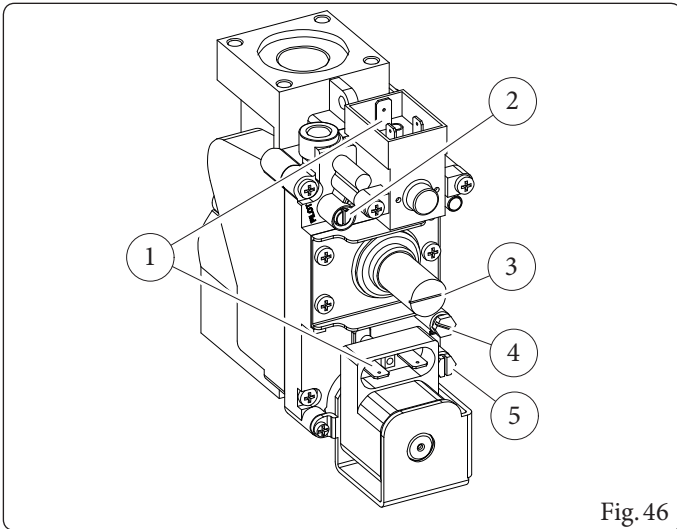

Fig. 46
Key (Fig. 46):
Switch on the appliance and activate the chimney sweep function at minimum power (0 %); check that the CO₂/O₂ value is as indicated in the tables in Para. 4.2 depending on the model concerned; if not, adjust the screw (Ref. 3, Fig. 46) (connection for pressure regulator). To increase the CO₂/O₂ value, turn the adjustment screw (3) clockwise and vice versa to decrease it.